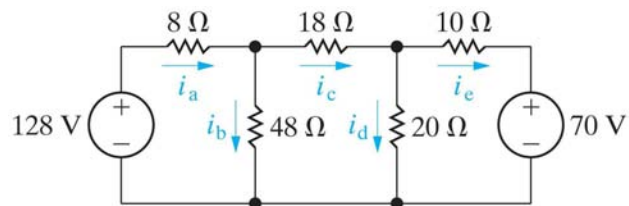

Figure 1
- (a) Use the node-voltage method to find the branch currents  $i_a - i_e$  in the circuit shown in Fig. 1.